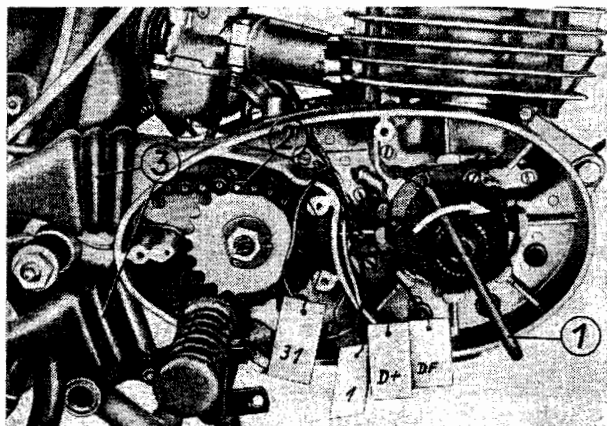

Fig. 10. Armature and secondary drive
After having removed the cables (1) from the dynamo (they may be marked in the manner shown in Fig. 10 — and identification is also possible when you take the cable colours and the wiring diagram given in Section 6., Electrical Equipment, into consideration), loosen the two M 5 screws (2) (using a screw-driver) and withdraw the pole cap (3).